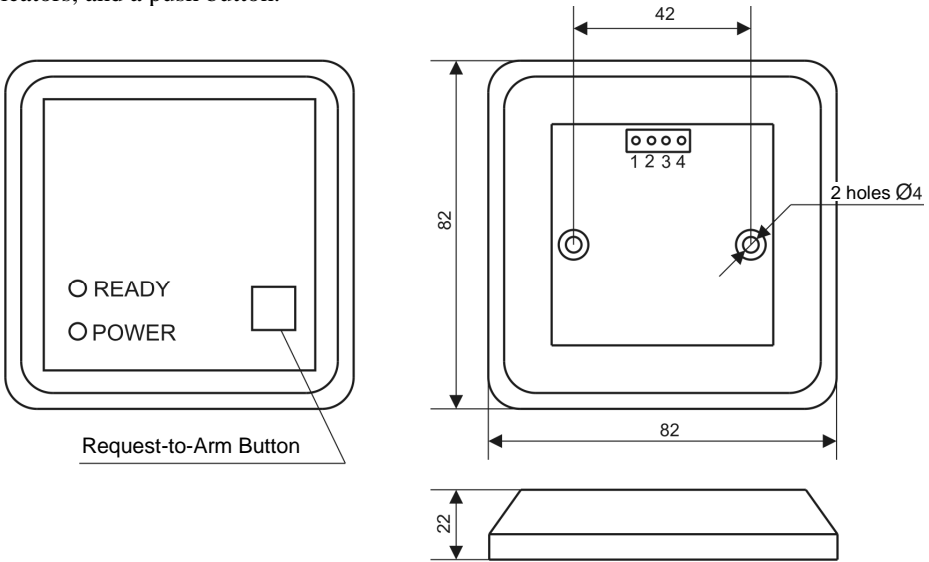

Figure 1
2.3.1 To attach the reader to a wall, drill two holes as shown in Figure 1. Please take into account that read range decreases in case of influence of electromagnetic interference as well as if the reader is mounted on metal.